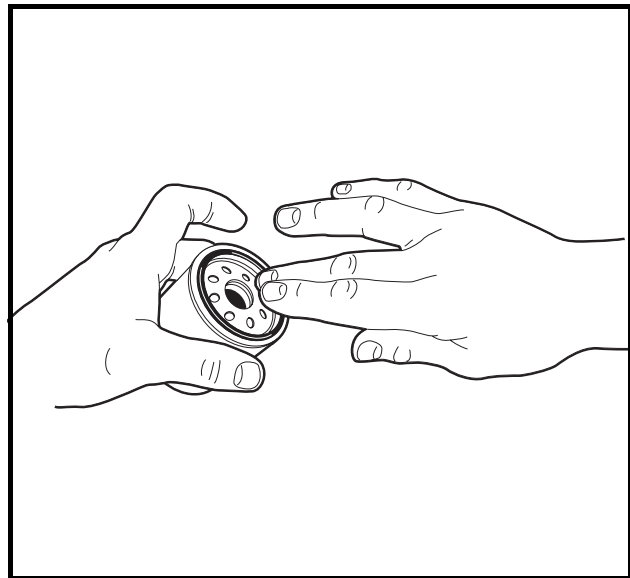

Figure 25 Coat Rubber Seal
5. To help seal the new oil filter to the oil port flange, apply a light coat of white lithium NLGI Number 2 grease (Dow Corning® BR2-Plus or equivalent) or new engine oil to the rubber seal around the outside surface of the filter before attaching it to the oil filter port (**Figure 25**). Install the new oil filter (gas: CCI P/N 102443401, diesel: CCI/PN 102628401) onto the engine oil filter port. **See following NOTE.**